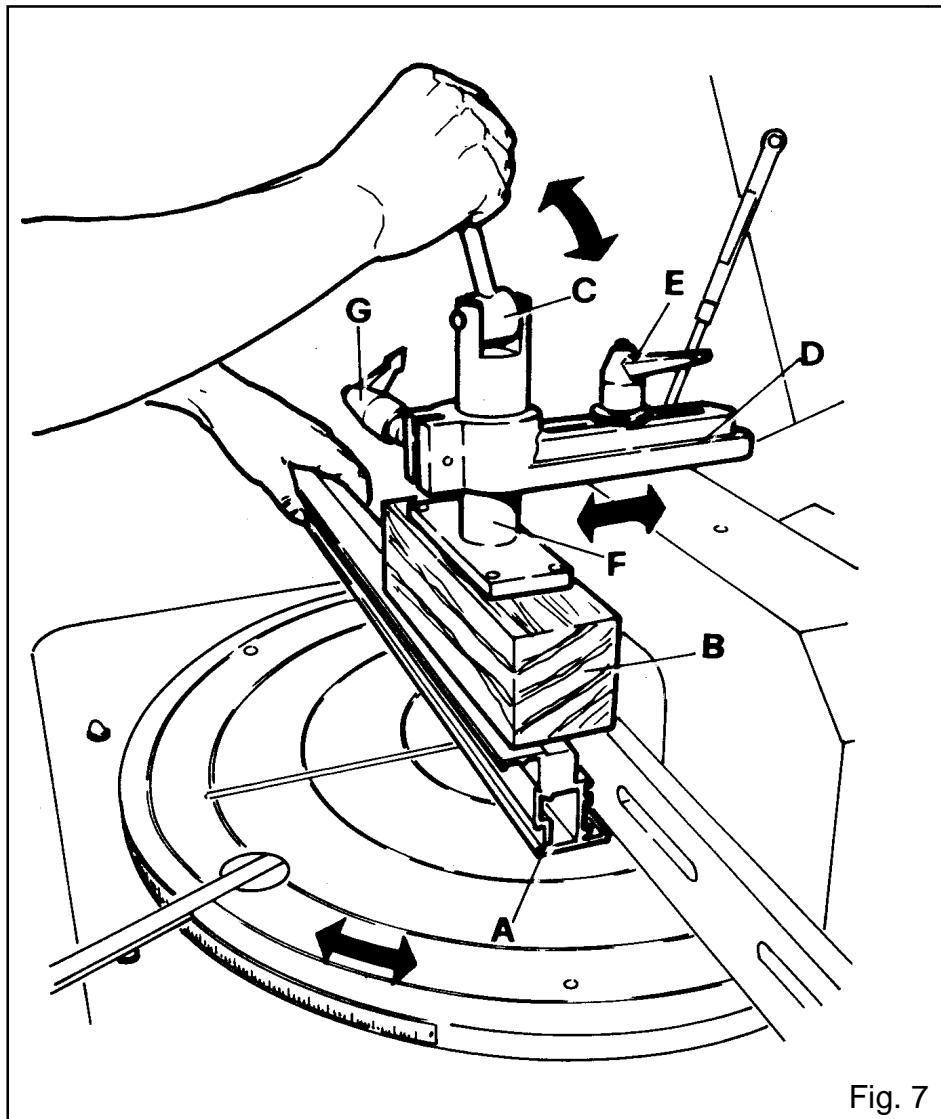

Fig. 7
The locking clamp F (Fig. 7) of profile A (Fig. 7) has to be adjusted in connection with the profile to be cutted by operating as follow:
- in case of a reduced section profile, loosen release lever G (Fig. 7) and draw the wooden dowel B (Fig. 7) nearer to the profile.
Then re-lock release lever G (Fig. 7), tighten the aluminium profile by means of eccentric C (Fig. 7).
In case of a profile with a larger section, loosen release lever G (Fig. 7) and lift piston F (Fig.7) until the profile can be locked.
Then re-lock release lever G (Fig. 7).
For the horizontal adjustment, loose release lever E (Fig. 7) blocking support D (Fig.7) of piston F (Fig. 7), then move it longitudinally to the expected position.
Block release lever E (Fig. 7).
- In case of a reduced section profile, loosen release lever B (Fig. 7/A) and draw piston A (Fig. 7/A) nearer to the profile. Then re lock release lever B (Fig. 7/A).
- In case of a profile with a larger section, loosen release lever B (Fig.7/A) and lift piston A (Fig. 7/A) until the profile can be blocked.
Then re lock release lever B (Fig. 7/A).
For the horizontal adjustment, loosen release lever C (Fig. 7/A) blocking support D (Fig. 7/A) of piston A (Fig. 7/A), then move it longitudinally till the expected position. Block release lever C (Fig. 7/A).
N.B. The machine is equipped with double pressure pneumatic clamps, as provided by the regulations, to avoid crushing; therefore make sure that, during the placement of the clamps, the plugs E (Fig. 7/A) skim the profile when they are in rest position.